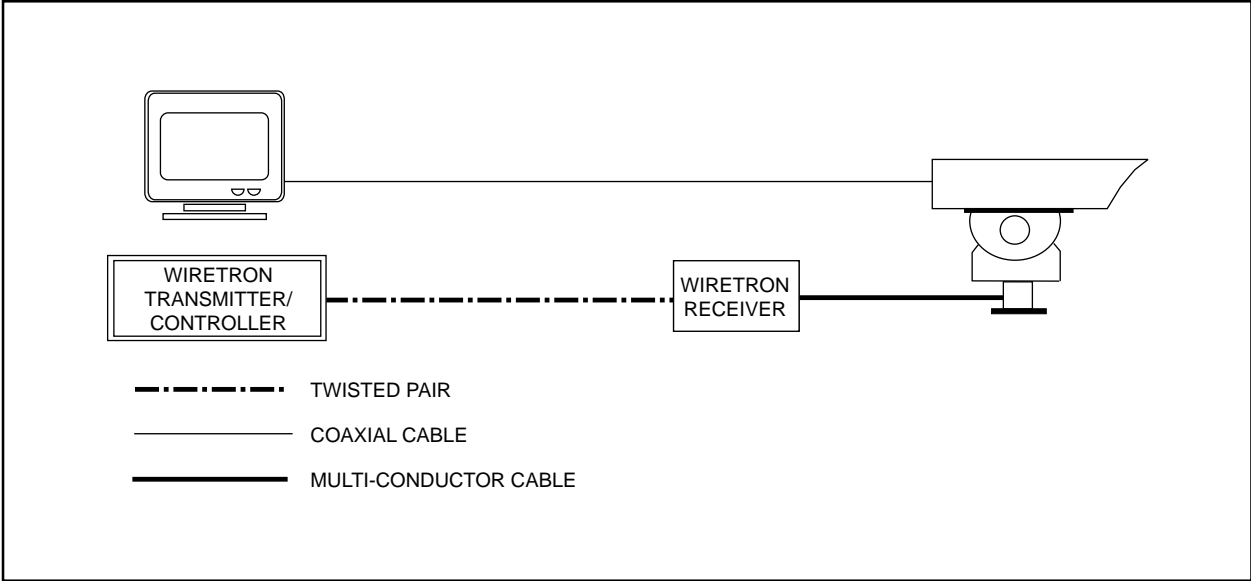
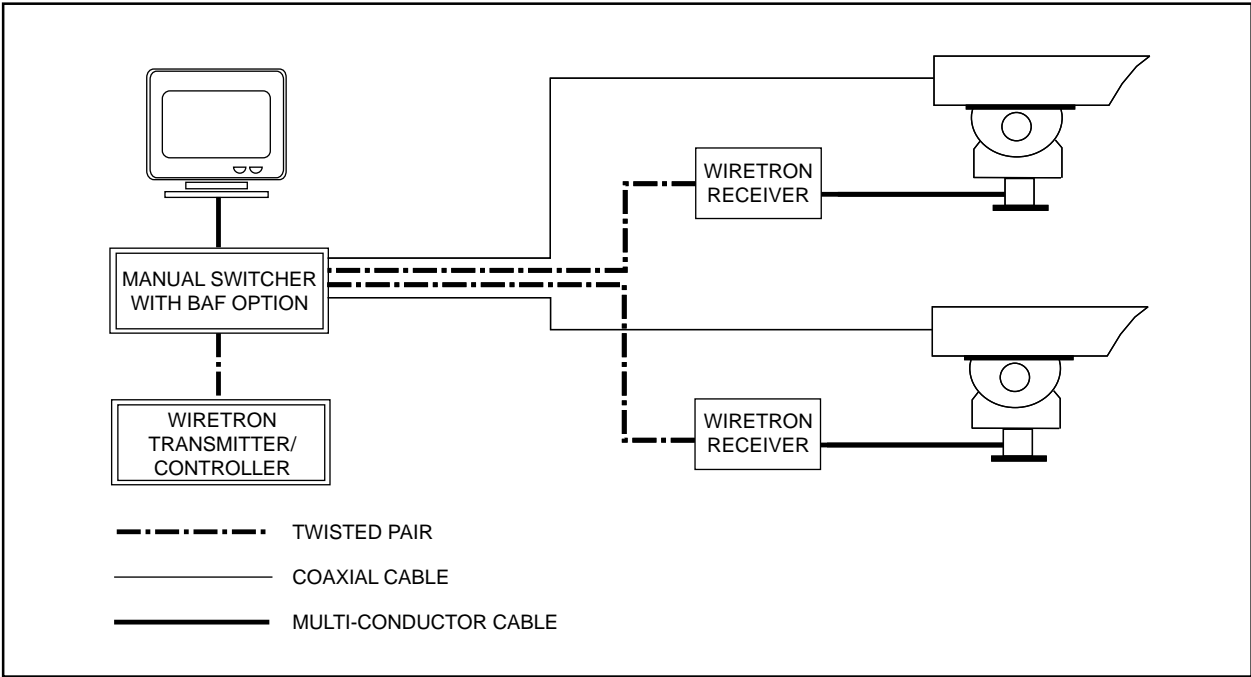

Figure 1. Basic Wiretron System Configuration
Figure 2. Multiple Camera Wiretron System
The simplest Wiretron system, consisting of the control transmitter and receiver, is shown in Figure 1. Up to 15 control functions are transmitted over the transmission line to the remotely located receiver. These signals are then converted to drive voltages or relay switching for auxiliary equipment being controlled. The basic system can be expanded to control multiple camera sites with the addition of a manual video switcher with balanced audio follow (BAF), as shown in Figure 2.
Run the control cable between the controller/transmitter and the receiver (refer to Figures 1 and 2.)
1. Run multi-conductor cable between the receiver/driver and the pan/tilt (refer to Figures 1 and 2.)
Install a video cable from the video output of the camera to the video input of the monitor (refer to Figures 1 and 2.) Proper termination of the video cable is vital to the operation of the equipment. Be sure 75-ohm cable termination is made at the monitor. Refer to Table B when wiring video coaxial cable distances up to 1,500 ft (457 meters).